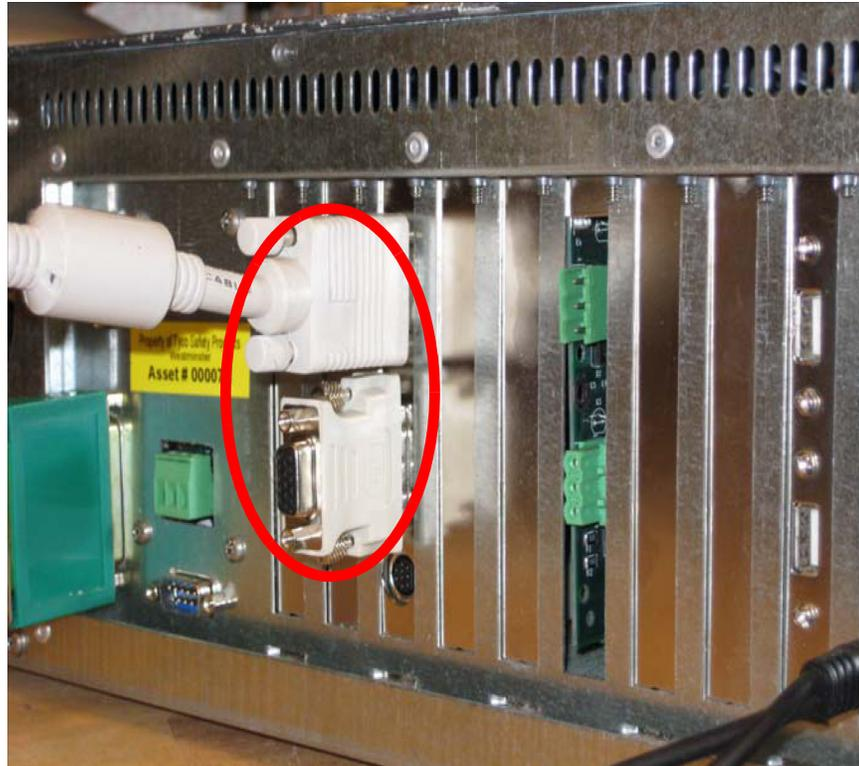

Figure 7-11 Attaching the DVI to the RGB Connector
3. Attach the monitor to the top video connector on the 4190-6038 video board. Attach the DVI to RGB connector to the middle connector, as seen in Figure 7-11.